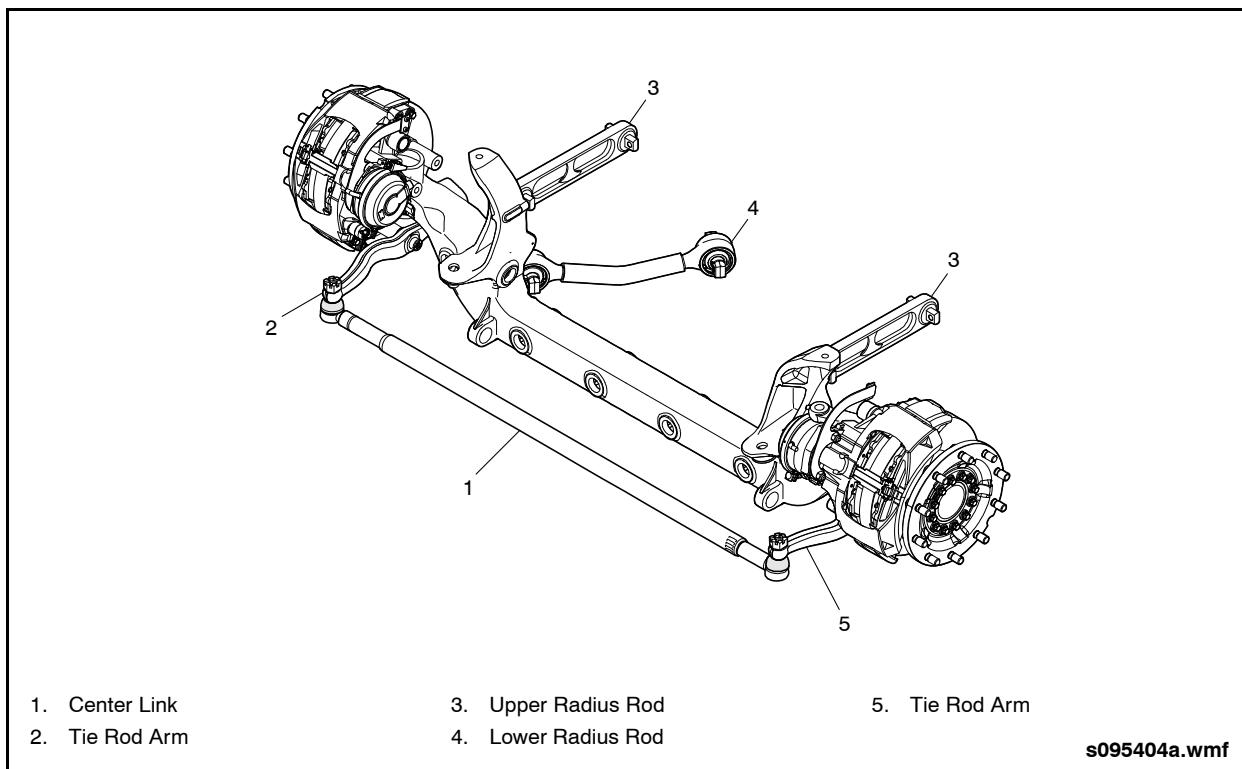

Fig. 1-3: Axle Lowered from Vehicle
14. Carefully lower axle and wheel assembly to floor with lift system. Use appropriate lifting equipment to lift the axle onto an adequate work stand. See "Fig. 1-3: Axle Lowered from Vehicle" on page 4.